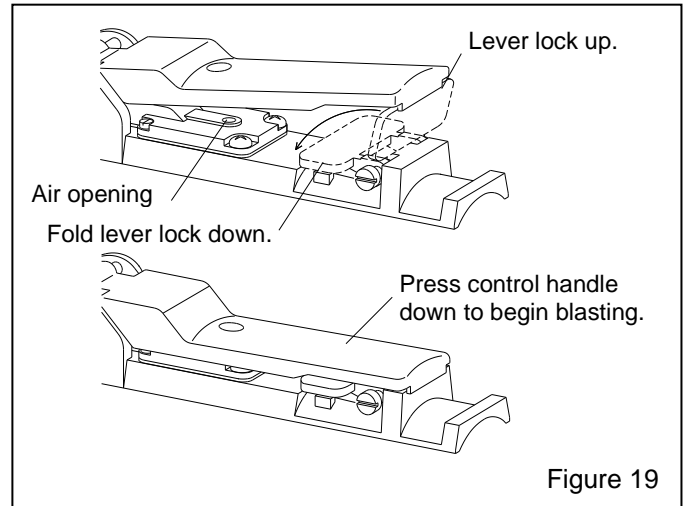

Figure 19
4.3.2 When the blast operator is ready to blast, the operator or the machine tender must close the safety petcock. Closing the petcock prepares the machine for remote operation and activation by the control handle. Air should be heard escaping from the opening under the control handle lever, as shown in Figure 19, but nowhere else. The air escaping at the control handle is an audible signal meaning air is supplied to the blast machine, which will activate when the control handle is pressed.
4.3.4 Fold down the safety lever lock and press the remote control handle, as shown in Figure 19. Within a few seconds, the pop-up valve will automatically close, and the blast machine will pressurize to start blasting.